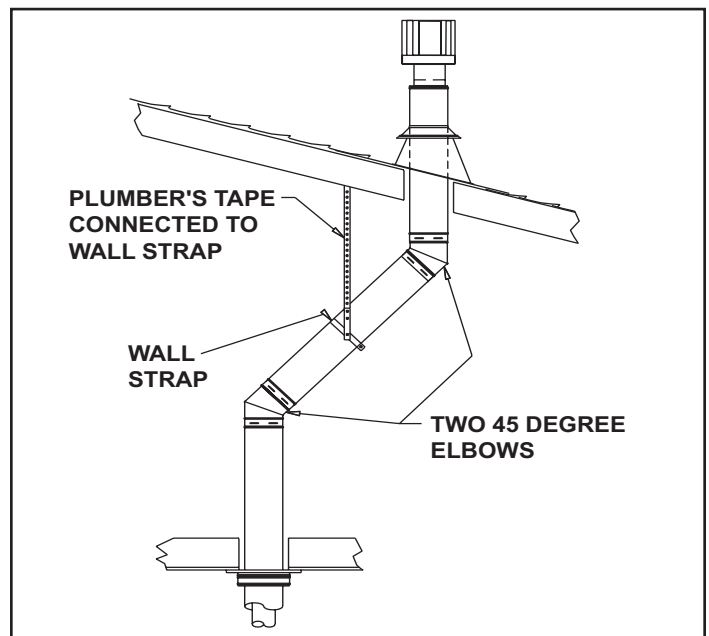

Figure 5.12
Step 2 - Set the gas appliance in its desired location. Drop a plumb bob from the ceiling to the position of the appliance flue exit, and mark the location where the vent will penetrate the ceiling. Drill a small hole at this point. Next, drop a plumb bob from the roof to the hole previously drilled in the ceiling, and mark the spot where the vent will penetrate the roof. Determine if ceiling joists, roof rafters, or other framing will obstruct the venting system. You may wish to relocate the appliance, or to offset, as shown in Figure 5.12 to avoid cutting load bearing members. When location is determined, drill small hole.
1. If an offset is necessary in the attic to avoid obstructions, it is important to support the vent pipe every 3 ft. (914mm) to avoid excessive stress on the elbows, and possible separation. Wall straps are available for this purpose, Figure 5.12.